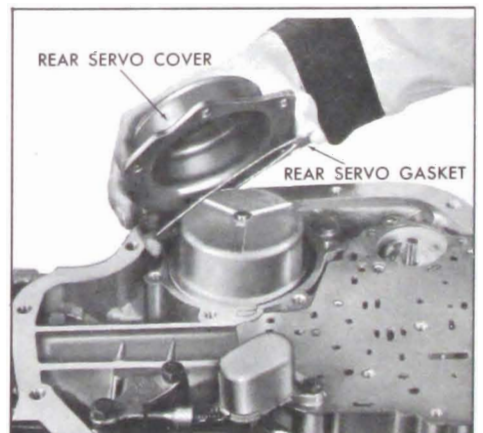

Figure 5-740
3. Install the rear servo gasket and cover. See Figure 5-740.